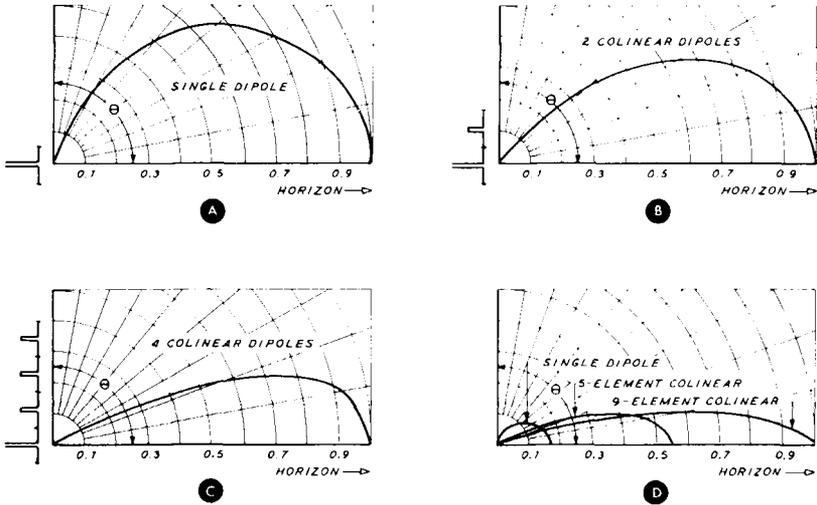
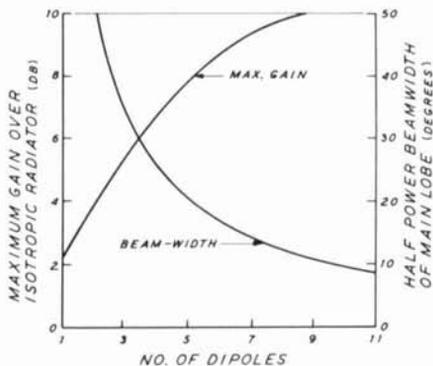

fig. 4. Free-space polar radiation patterns of colinear antennas without reflectors.
fig. 5. Relationship of maximum gain and half-power beamwidth to the number of colinear dipoles in the array.
The curves in **fig. 4**, which represent polar radiation patterns in free space, show what may be expected (theoretically) as phased colinear dipoles are added to a simple dipole antenna, also in free space. It is seen that the addition of phased dipoles causes the radiation pattern to exhibit a flatter shape. **Fig. 5** shows the relationship between maximum gain and the half-power beamwidth, as a function of the number of added dipoles, over an isotropic radiator. Note that the gain of a single dipole (**fig. 5**) is referenced to approximately 2 dB, which is generally accepted as its gain over an isotropic radiator.
colinear array is about 8 dB over that of a single dipole, or 10 dB over an isotropic radiator (see **fig. 5**).
The curves in **fig. 4** are graphical expressions of the magnitude of the free-space polar-field radiation patterns of colinear antennas without reflectors:¹
*The number of minor lobes (not shown) of the polar patterns of **fig. 4** is given by the smallest integer nearest the value $(n-1)/2$, where n is the number of dipoles. For example, 8 and 9 dipoles would have 3 and 4 minor lobes respectively.